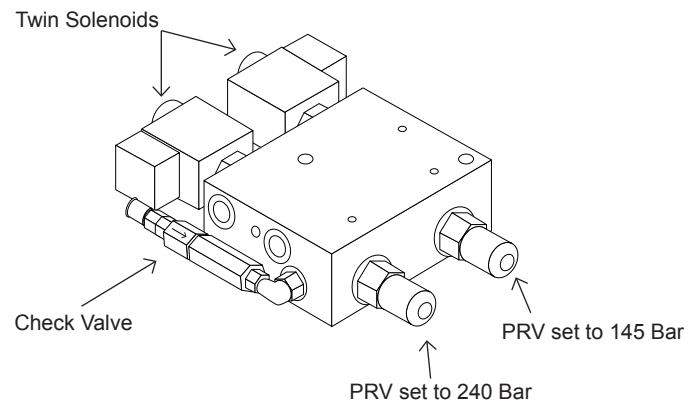

Fig 4.2.1 I-Lock Control Valve
- The I-Lock Control Valve consists of twin solenoid valves, two pressure reducing valves and 5 ports for hose routing. The distinguishable markings are there to assist with the electrical connection and hose routing to ensure that the coupler operates in accordance with which it has been designed. (Fig 4.2.1)
The supplied Check Valve should be connected directly to the “P” (Pressure) port on the I-Lock Control Valve with the fittings provided in the kit. (See Control Valve Assy Fig 4.2.1)